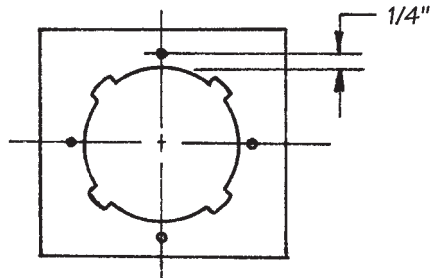

Figure 6
9. Determine a location for the Ram-Air Super-Scoop. It should be placed as low as possible directly behind the grille, with the air inlet opening pointing straight ahead. If the grille is at an angle, the Super-Scoop should be trimmed at an angle to place the air inlet opening against the back side of the grille with the centerline of the inlet opening horizontal. See Figure 6. Use heavy snips or a hack saw to trim the air inlet opening of the Scoop.
11. Connect the bulkhead fitting to the Super-Scoop using the 4" diameter flex hose provided. Cut the hose to the desired length using a knife and diagonal cutting pliers. Secure with two No. 64 hose clamps. If your coach does not have the factory air inlet hood bracket, but you do have clearance to run the 4" flex hose forward of the radiator, join the air filter snorkel to the Super-Scoop with the 4" diameter flex duct provided. Use the plastic bulkhead fitting as a coupling between the hoses, and trim off the curved section if desired. Attach the flex hoses with four No. 64 hose clamps. You may want to tie the plastic bulkhead fitting down to keep it in place. See Figure 6.